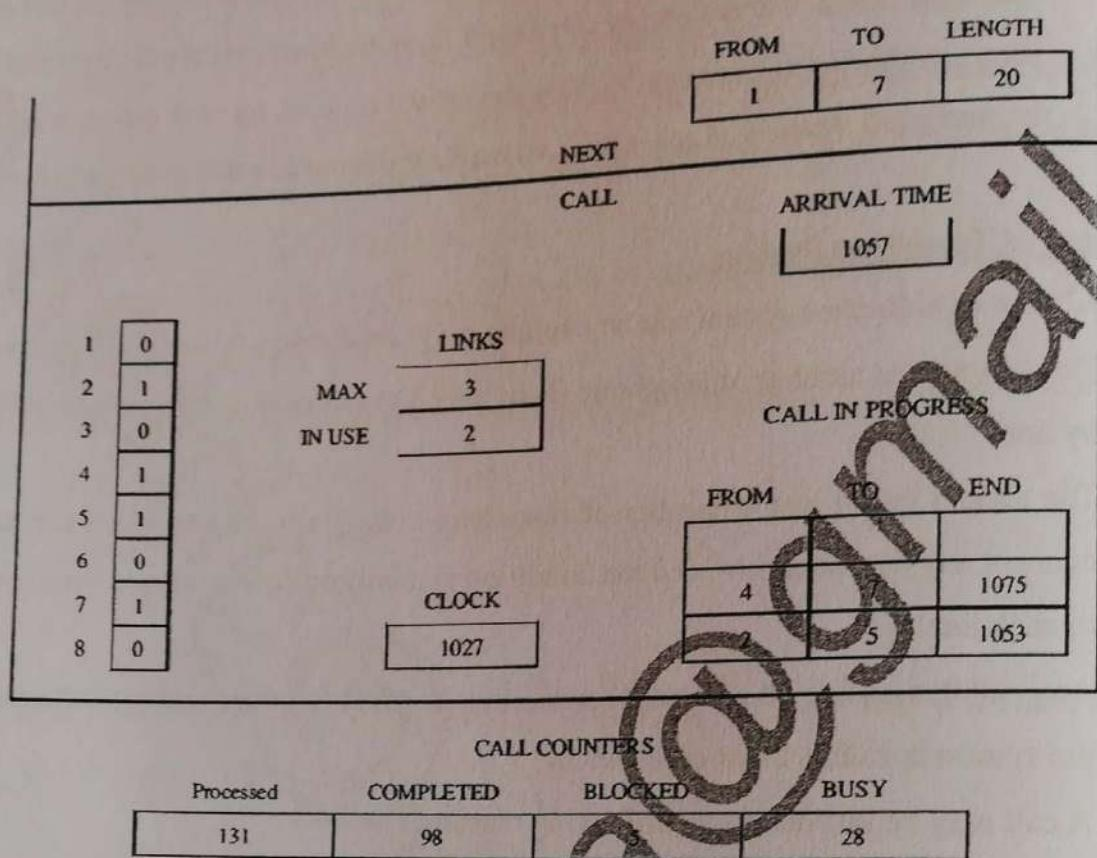

Figure: 2: Telephone System Initial State
- Two possible activities can make change to occur in the system state; a new call can arrive or an existing call can be finished. From the figure 2, it can be seen that three events can occur in the figure: